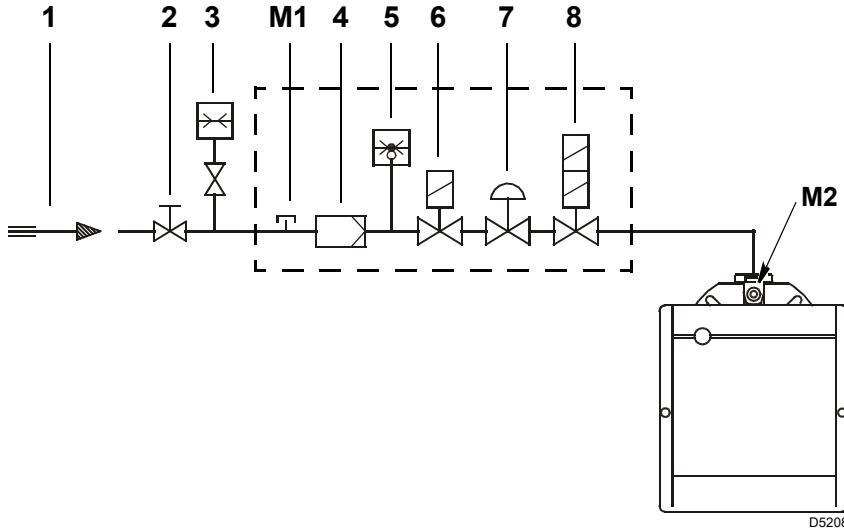

Fig. 17
Key (Fig. 17)
To calculate the required gas pressure at test point M2)(Fig. 17), with the maximum modulating output at which you want the burner to operate having been fixed:
- Read on the right, column 1, the pressure at the socket M2)(Fig. 17).
$$\begin{array}{lcl} \text{Gas pressure at test point M2)(Fig. 17)} & = & 12.2 \text{ mbar} \\ \text{Pressure in combustion chamber} & = & 2.2 \text{ mbar} \\ 12.2 - 2.2 & = & 10.0 \text{ mbar} \end{array}$$